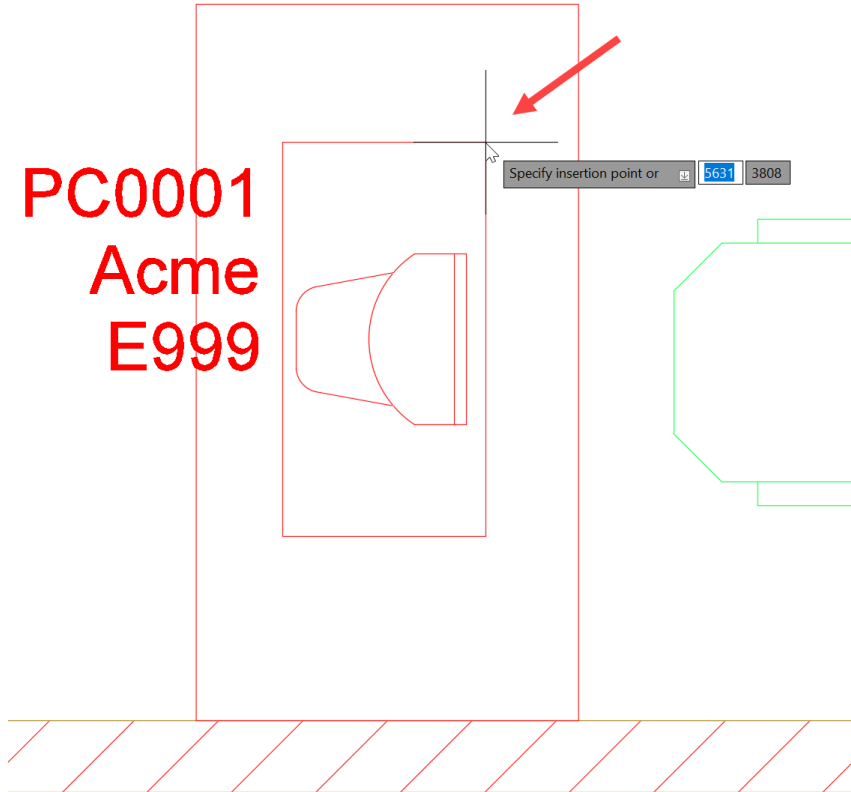

Figure 10.14: The PC\_Attributes block just before the position is confirmed
20. The selected block appears on your cursor, and you can position it using the insertion point you selected when creating the block (top-right corner of the PC). Locate the new block centrally on the desk (don't worry too much about exact positioning, as you can rework that later with object snaps if you wish). *Figure 10.14* shows the block in position before you click to confirm. Note that it is displaying the attributes and is on the current layer (PCS).